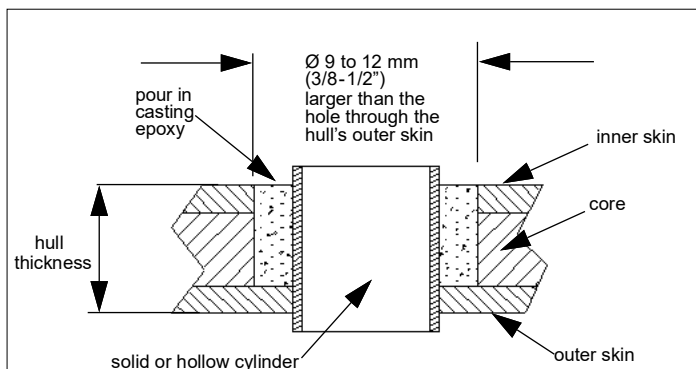

Figure 5. Preparing a cored fiberglass hull
2. Using a $\varnothing$ 51 mm or 2" hole saw, cut the hole from outside the hull through the *outer* skin only (Figure 5).